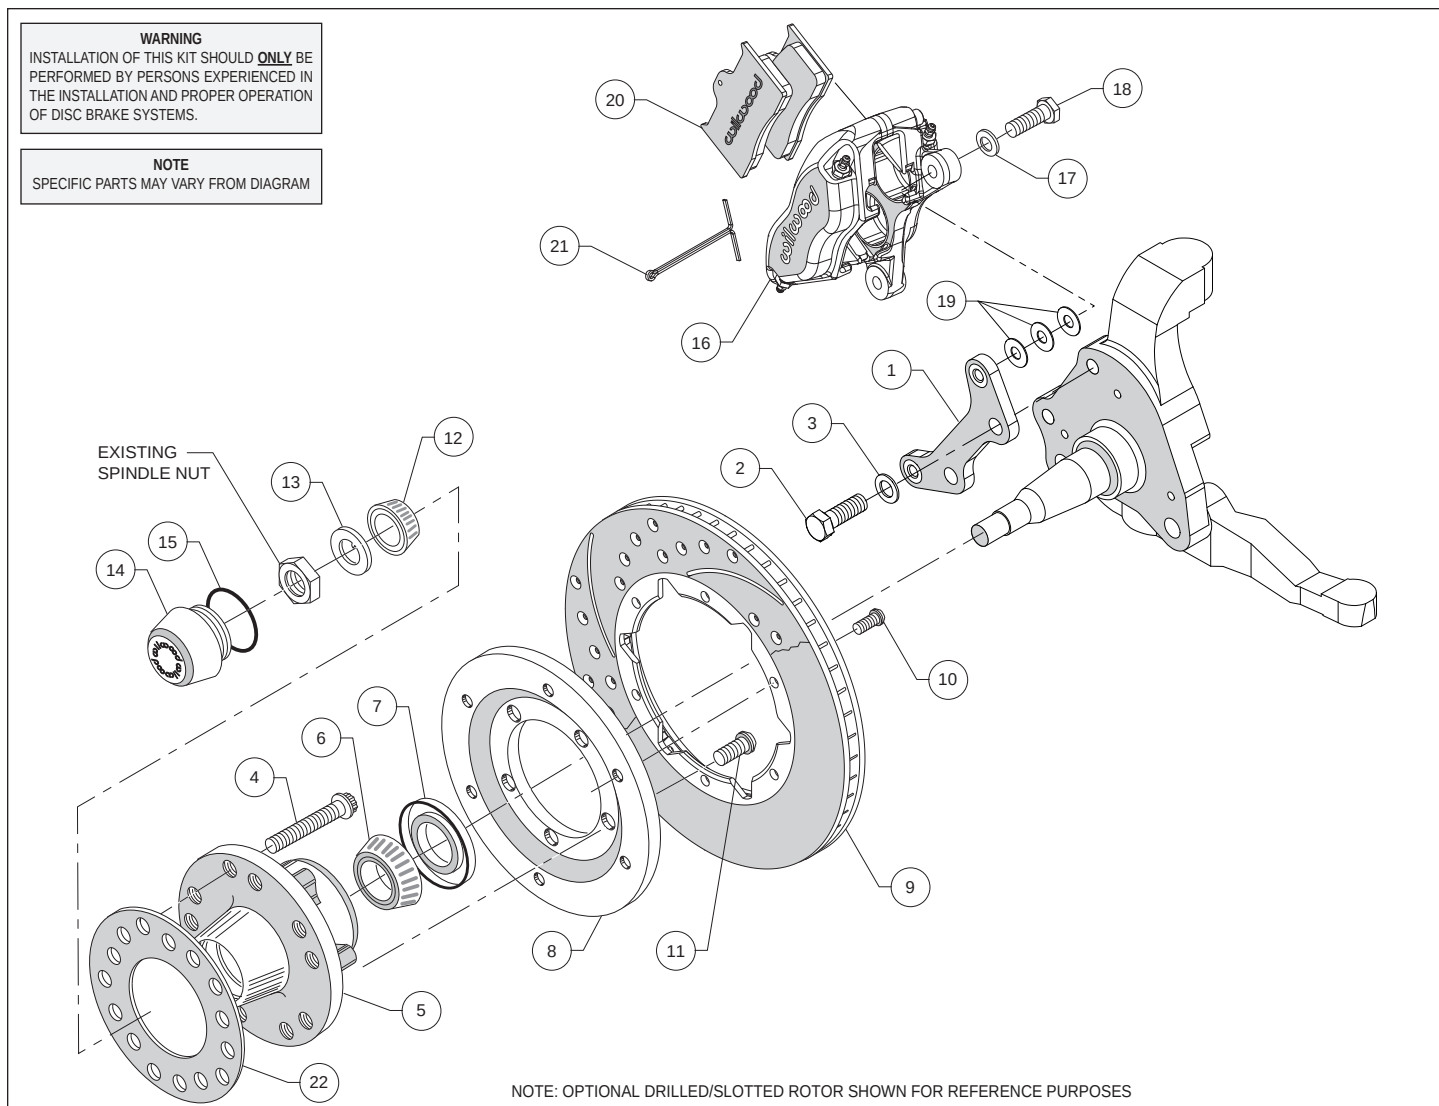

Figure 1. Typical Installation Configuration
Assembly Instructions (numbers in parenthesis refer to the parts list, on the preceding page and Figure 1): **CAUTION:** *All mounting bolts must fully engage clinch nuts.* Be sure to check that all bolts are either flush or protruding through flanged side of clinch nut after shimming, Figure 3.
- Align caliper mounting bracket (1) with the corresponding holes, to the face of the spindle. Attach using bolts (2), and washers (3), as shown in Figure 1 and Photo 1. Temporarily tighten the mounting bolts. Ensure that the flanged heads of the clinch nuts in the bracket are facing outboard, Photo 1. **NOTE:** *The bracket must fit squarely against the mounting points on the spindle.* Inspect for interference from casting irregularities, machining ridges, burrs, etc. Remove bolts one at a time, apply red *Loctite®* 271 to threads and torque to 77 ft-lbs.
- Install the grease seal (7) by pressing into the backside of the hub (5), flush with the end of the hub, Photo 3.
- Orient the rotor (9) and the rotor adapter (8) as shown in Figure 1 and Photo 4. Attach the rotor to the adapter using bolts (10). Using an alternating sequence, apply red *Loctite®* 271 to the threads, and torque to 25 ft-lb.
- Mount the adapter/rotor assembly (8/9) to the hub (5) using bolts (11), as shown in Figure 1 and Photo 5. Using an alternating sequence, apply red *Loctite*® 271 to the threads, and torque to 55 ft-lb.
- Screw dust cap (14) into hub (5), Photo 7. Friction created by the o-ring (15) on the dust cap keeps it from unscrewing. **NOTE:** The O.D. of the existing OEM spindle washer may be larger than the I.D. of the dust cap not allowing it to seat against the hub face. Therefore, use the spindle washer (13) supplied with the kit instead of the OEM washer.
- NOTE:** Please reference the caution statement at the beginning of the assembly instructions. Mount the caliper (16) onto the caliper mounting bracket (1) using bolts (18) and washers (17), as shown in Figure 1. Initially place three .035" thick shims (19) on each bolt between the caliper and the bracket, Photo 8. Temporarily tighten the mounting bolts and view the rotor (9) through the top opening of the caliper. The rotor should be centered in the caliper, Photo 9. If not, adjust by adding or subtracting shims between the bracket and the caliper. Always use the same amount of shims on each of the two mounting bolts. **NOTE:** The end of each bolt must be flush with or slightly protruding from the head of the clinch nut, as shown in Figure 3. If necessary place spare shims between washer (17) and caliper mounting ear to achieve the proper clinch nut engagement. Once the caliper alignment and clinch nut engagement are correct, remove the bolts one at a time, apply red *Loctite*® 271 to bolt threads, and torque to 40 ft-lb.